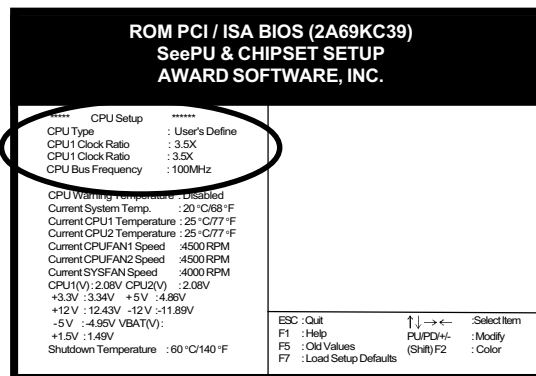

Figure 2-4
4. Use the User Define option to custom set your CPU's parameters. Set the frequency ratio (also known as external clock multiplier factor) and CPU bus frequency according to your processor's specifications. See Figure 2-4.